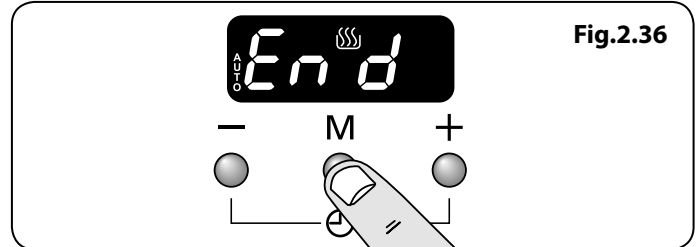
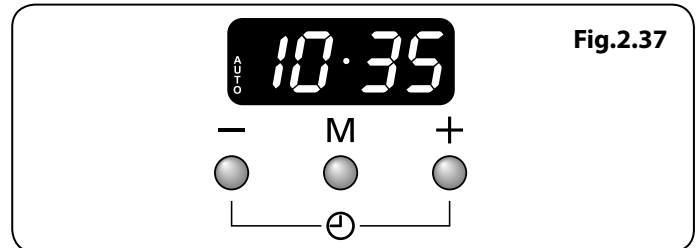

Fig.2.36
Fig.2.37
2. Press the mode [M] button until the display flashes (End) (Fig.2.36). Then set the 'stop time' using the [+] or [-] buttons. Current time will be displayed along with the word 'AUTO' (Fig.2.37).